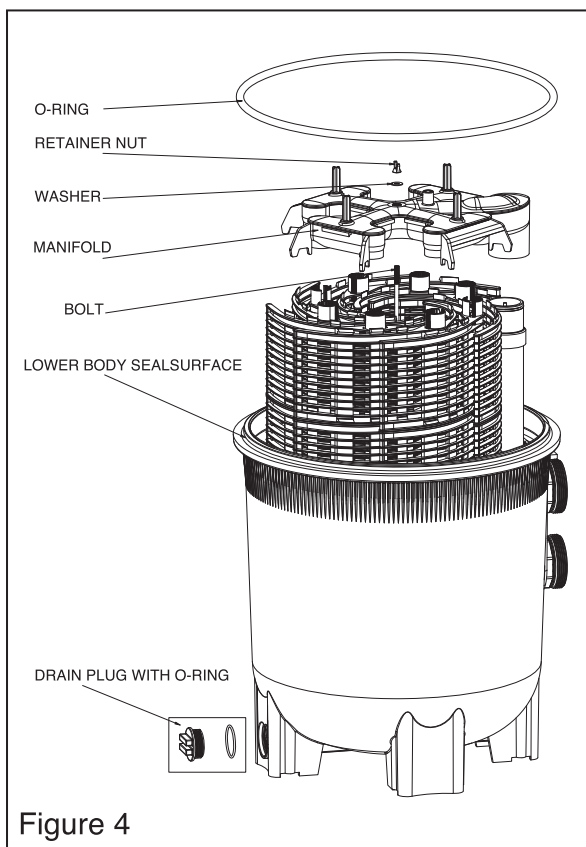
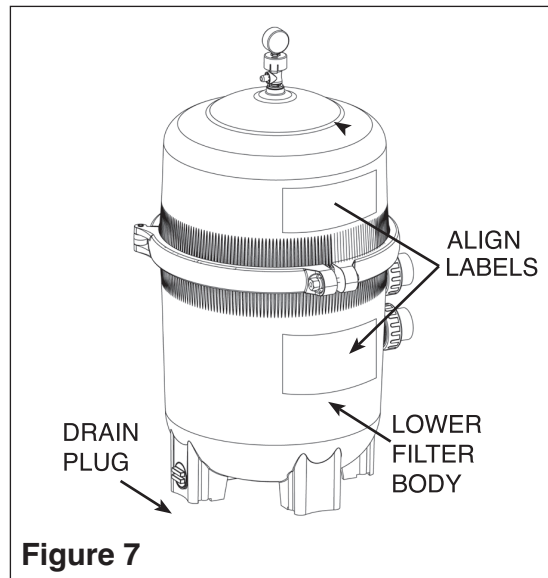

Figure 4
Figure 7
- **Close Filter Drain:** Note that the filter drain plug requires an o-ring seal for proper closure (see Fig. 4).
4. Remove the filter drain plug (Fig. 4) and drain the water from the filter.
1. Remove the upper filter body, unscrew the retainer nut, and then remove the manifold on top of the filter (Fig. 4).
2. Use a clean cloth to wipe the lower filter body seal surface, thoroughly clean it of all dirt and debris (see Fig. 4). Do not use any solvent.
1. Place the metal-reinforced seal on the lower filter body (see Fig. 4). Position the upper filter body on top of the metal-reinforced seal and the lower filter body, ensuring that all operation and safety labels are clearly visible and that the upper filter body is centered on the lower filter body. Press down firmly and evenly on the upper filter body to seat the seal (see Fig. 7).
2. Reattach the filter clamp around both the upper and lower filter bodies. Hold the clamp ends in place to position the clamp, ensuring that the clamp ends align with the safety and operation labels on the filter bodies (see Fig. 7).